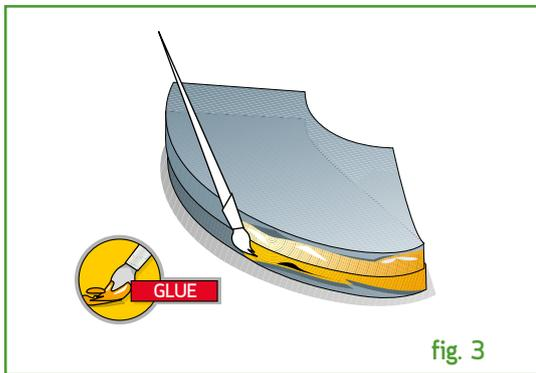

fig. 3
- 5) Wait until the glue is dry, and then join the two edges by pressing them against each other evenly, making sure they are firmly bonded together. (**fig 3**)
3) Cut lengthwise along the inner side (fig 3)
3) Lay the two sections flat on top of each other and spread MATIBLOCK glue on the edges of the profile with the larger radius. (fig 3)